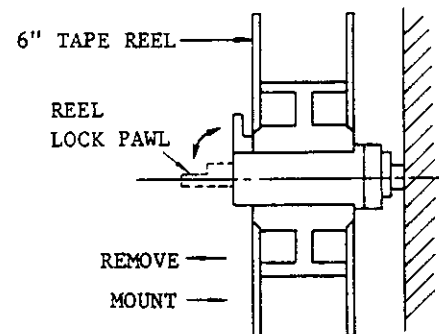

Fig. 5.4
1. Pull the reel lock pawl on the right reel spindle to the horizontal position, and dismount the reel from the spindle. See Fig. 5.4.
6. Holding the reel with hand to prevent slack in the tape, free the tension arm from the tension arm rest, and lower it gently. The broken lines in Fig. 5.4 show the correctly set tape.